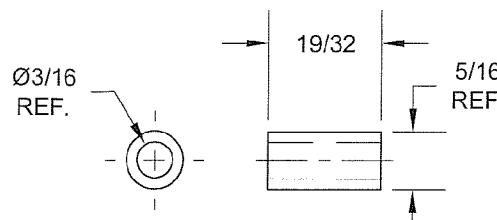

FIGURE 1:
Step 1: Fabricate A-1012 and A-1013 Spacers from AT6-058 x 5/16 material as shown in Figures 1 & 2.